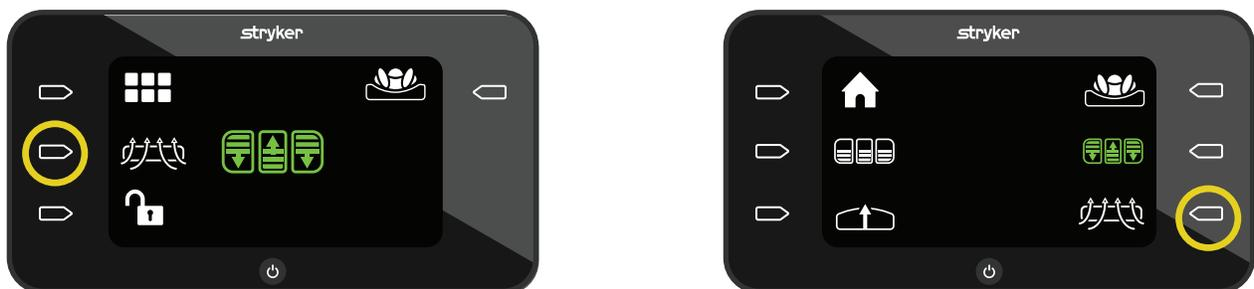

Figure 38 – LAL off
1. To turn on LAL, press the **Action** button next to the **LAL off** icon (Figure 38).